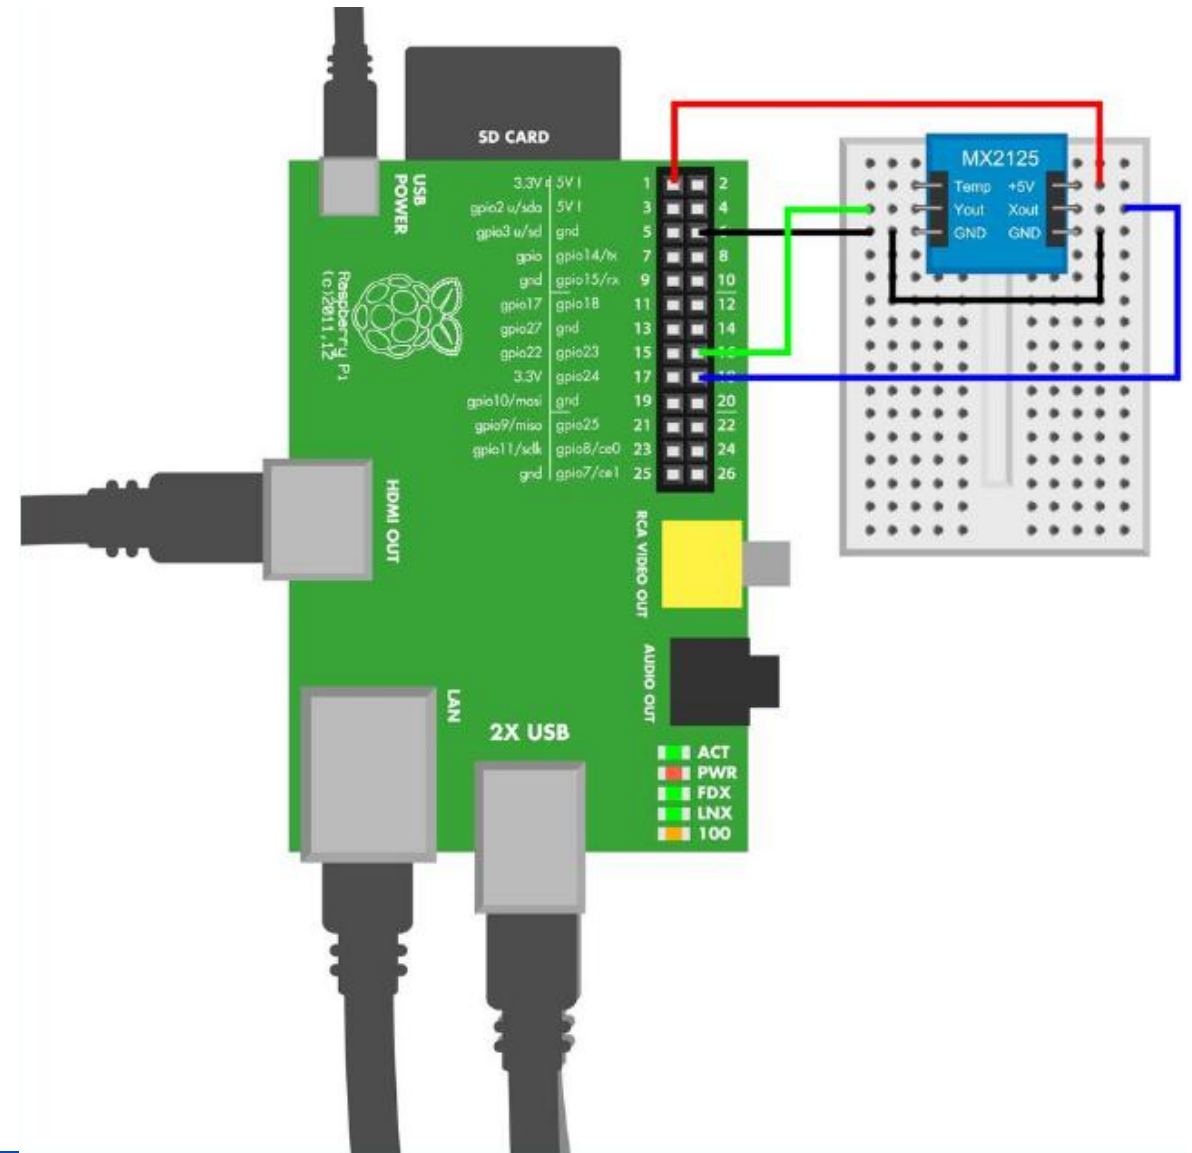

Figure 8-3. MX2125 dual axis accelerometer circuit for Raspberry Pi
- Figure 8-3 shows the wiring diagram for the Raspberry Pi.